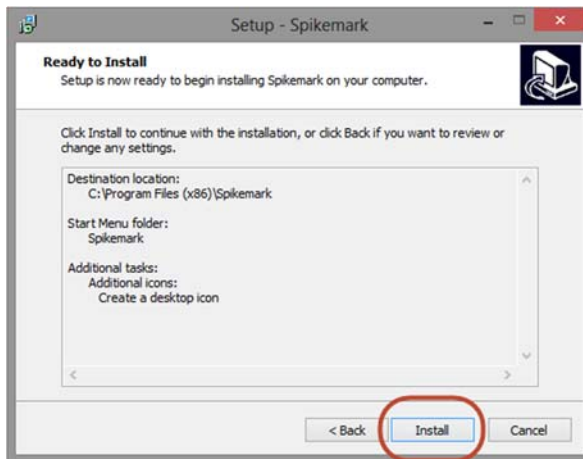

Figure 7
9. With all the options configured, Spikemark is ready to be installed. Click **Install**. (Figure 7)